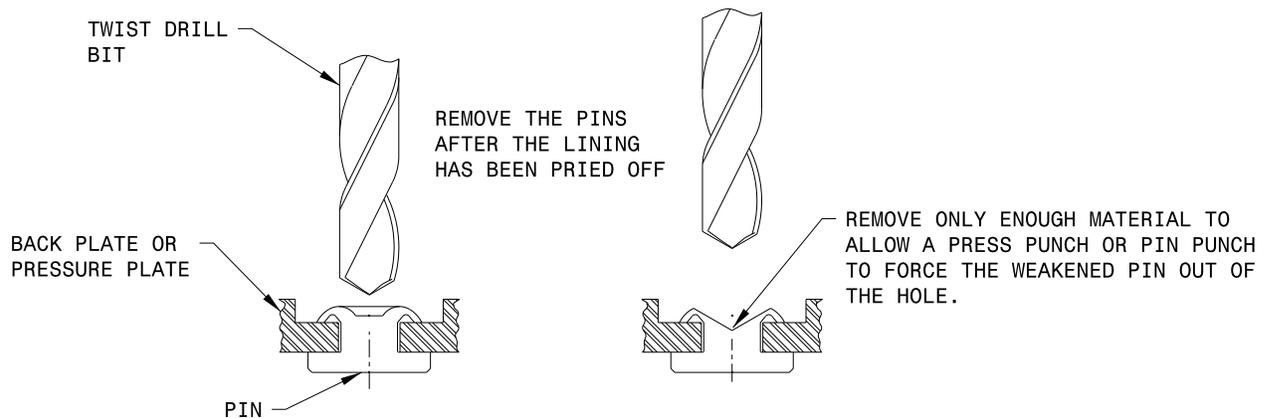

Figure 4 Remove the attachment pins
- (2) Inspect the attachment pins (177-00300) for mushroomed heads or other visible damage. Damaged attachment pins can be replaced as follows:
- (a) Refer to Figure 4. Use a twist drill bit and carefully drill into the clinched end of the pin. Remove only enough material to allow a press punch or pin punch to force the pin out of the hole without deforming or enlarging the hole. Discard the pin.